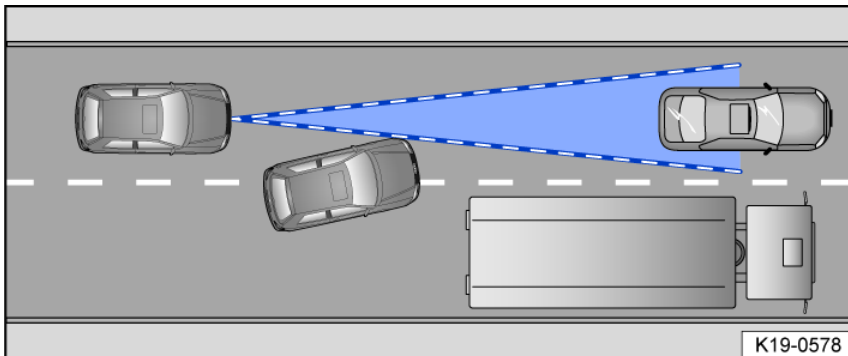

Fig. 127 Changing lanes.
- If vehicles change to your lane close in front of your vehicle fig. 127.